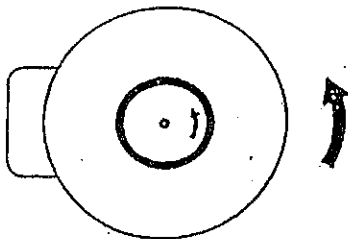

Fig. 4-13 Rotational Direction of the Coolant Pump
4. For connecting the coolant unit, a connecting passage is provided on the lower right side looking at the control enclosure from the front. Connect the wires from the coolant unit. To check its rotating direction, depress the COOLANT ON/OFF button to ON and then depress it to OFF immediately. The rotating direction is counterclockwise. ▶ See Fig. 4-13.